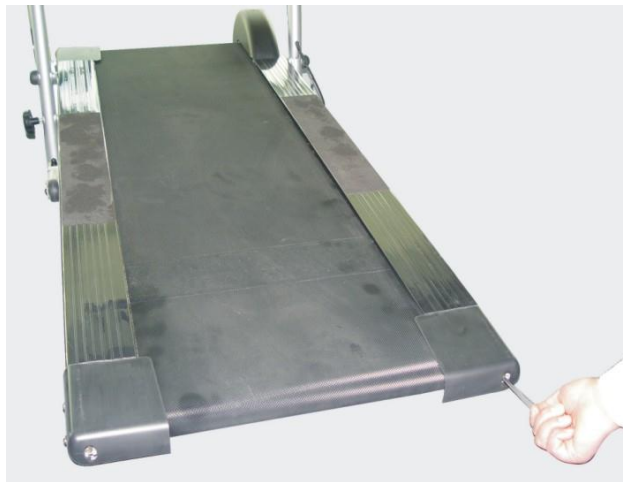

Figure 7
- 2) Check if the running belt turns smoothly or not and the running belt deviates or not when operating. Under normal condition, the running belt will turns freely and keep its position in the middle since the belt is adjusted at factory. It may run defectively if after rude transportation, please adjust it referring to the Figure 7.
- 3) Please screw bolts in the end caps to adjust the tension of running belt. Be sure that you must adjust both bolts at the same time to avoid deviate the belt. Screw counterclockwise on both bolts can release the belt, clockwise can tighten the belt. (See Figure 7)
- 4) If the running belt deviates to left side, please insert the hex end of the screwdriver into the hexangular hole at the left or right side of the rear roller, turn 1/2 circle counterclockwise in the right side, try running again till the belt runs in the middle; or turn 1/2 circle clockwise in the left side, try running again. Please operate conversely if the running belt deviates to right side. During the operation, keep the belt in a proper tension state. (See Figure 7)